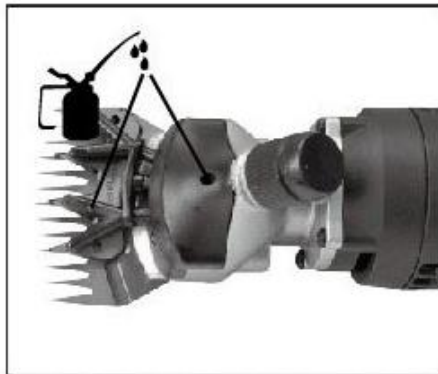

Fig. 1(Lubricant Oiling from the Hole on the Head Shell) (Hole 1 –fixed position; Hole 2 Top)
3. During work, lubrication oil should be added to the machine . When the machine runs 1-2 minutes, it should be oiled on blade once again . The oiling amount usually is 5-8 droplets. Apply lubrication oil to two holes on the machine hole after about thirty minutes of operation. The oiling amount in such case is usually 3-5 droplets (see Fig. 1).